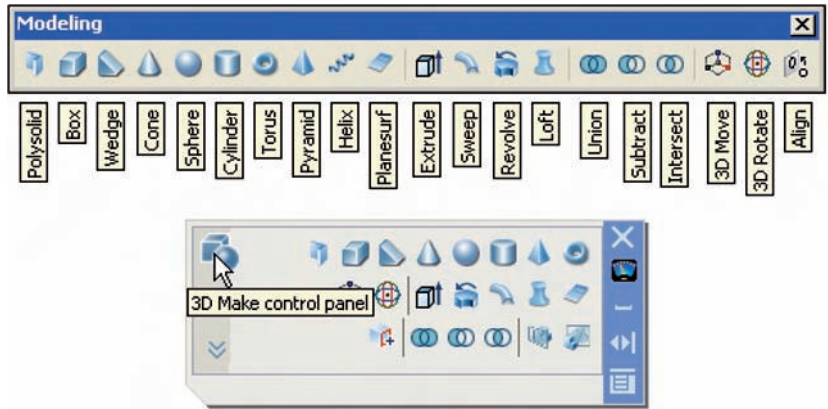

Fig. 13.3 The tool icons in the **Modeling** toolbar and **3D Make** control panel
1. A *click* on a tool icon in the **Modeling** toolbar or in the appropriate **3D Make control panel** brings the selected tool into action (Fig. 13.3).